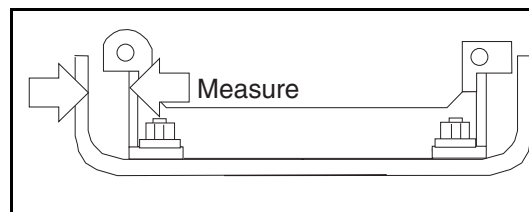

Figure 3 - 40 Reset at Original Dimensions
- 4) Measure the distance from the screed bottom lip to the sub-frame and adjust to the dimensions previously taken when removing screed bottom (Figure 3 - 40).